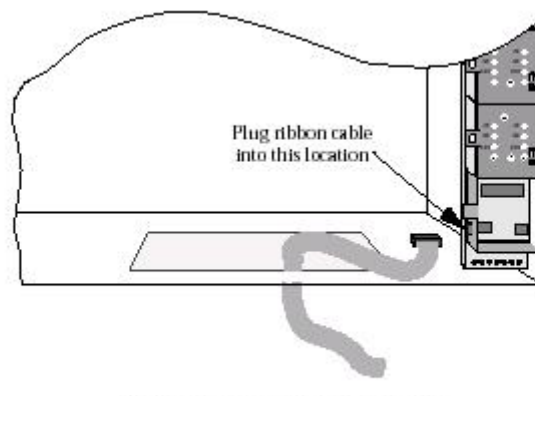

**Figure 9. Power Supply Grounding Cable**
2. Assure that there is a solid connection. Refer to Figure 9.